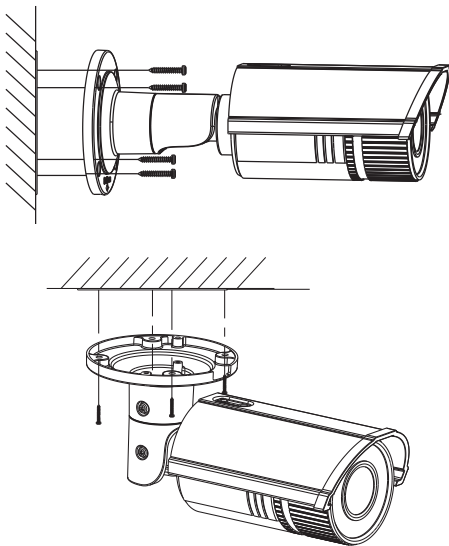

Figure 2-5 Secure the Camera
5. Secure the camera to the wall (or ceiling) with expansion screws. Refer to the Figure 2-5.